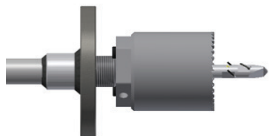

Figure 4
**3.0.2)** Insert pilot bit into adaptor and lock in place with set pin (see Figure 4).